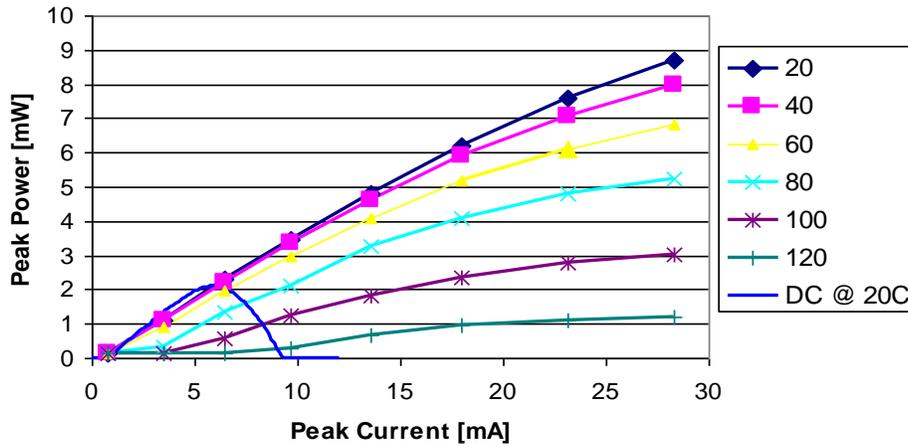
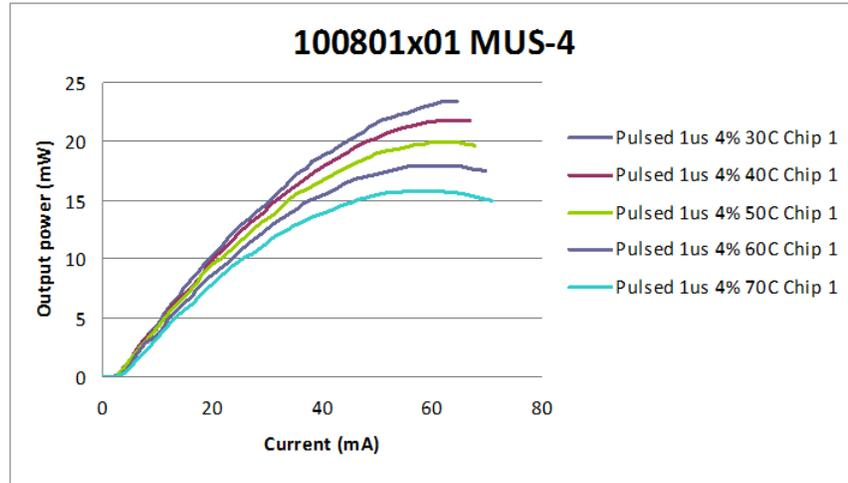

Figure 3: Peak Pulsed Power Characteristics Over Temperature for a 670 nm SM VCSEL
Figure 10: Peak Pulsed Power Characteristics for Vixar’s MM VCSELs over Temperature for 1µsec pulse width and 4% duty cycle.
The thermal heating of the junction can be reduced by application of short current pulses with a duty cycle less than 100%. The reduced junction heating results in significantly increased optical output power. An example of the peak pulsed power characteristics for a 670 nm single-mode (SM) VCSEL over temperature is provided in Figure 3 for pulsed conditions of 50 ns at 1% duty cycle. Notice that the LI (power L versus current I) curve for the same device under DC or CW operation at 20C is superimposed (Blue Curve). For DC operation Pmax is about 2 mW at Imax = 7 mA. When driven under short-pulse low duty-cycle conditions the pulsed thermal roll over point is not reached up to currents of 28 mA, except at the highest temperatures of 100C or 120C.
It should be noted that the peak pulsed power of Figure 3 was measured by using an average power meter, recording the time averaged power, and dividing the average power by the duty cycle to arrive at the peak power.
Most of the data presented so far, was taken from Vixar's Single Mode (SM) 670nm VCSELs that exhibit peak pulsed power levels between 4 mW and 8 mW, depending on the pulse conditions. However, significantly more pulsed power (20 mW) can be delivered from Vixar's Multi-Mode (MM) VCSELs as illustrated in Figure 10. Again, these pulsed power curves were taken over a range of temperatures (similar to Figure 3).